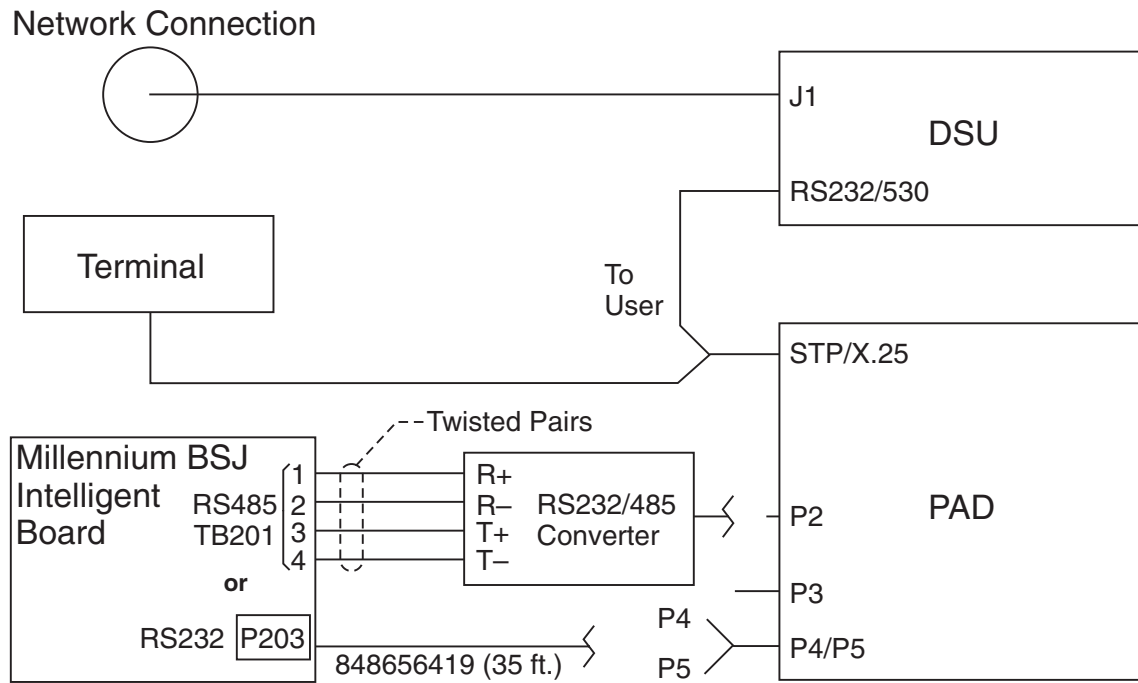

Figure D-1: Millennium/X.25 Connection Block Diagram
Figure D-1 shows a block diagram of the X.25 connection. The asynchronous connection is accomplished either via RS232 from the Millennium Aux port if the cable distance to the PAD is 35 feet or less or through RS485 and a RS-232/485 converter to the Millennium Aux port. The synchronous connection to the X.25 network may be user configured as either a permanent virtual circuit (PVC) or as a switched virtual circuit (SVC). Contact your network administrator to determine which type of connection will be provided.
1. Connect the Y-cable labeled “To User” to the connector labeled “STP/X.25” on the back of the PAD unit (see Figure D-1).